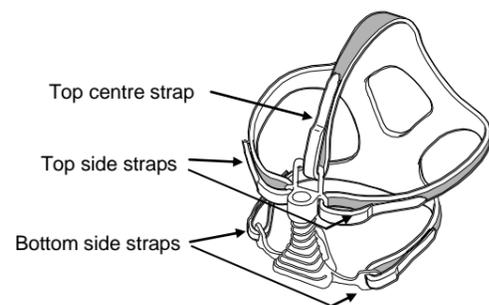

Figure 1
1. If not already assembled, attach the headgear and short-length tubing as shown in Figures 1 and 2. Ensure the label on the headgear is on the outside. After threading the headgear straps through the lugs secure them with the Velcro® tabs.